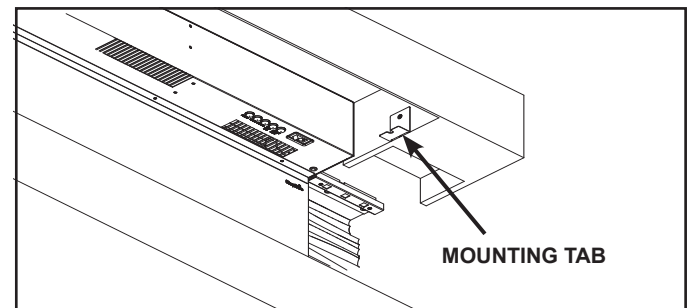

Figure 8
- Before installing the top mantel, bend the mounting tabs slightly into a more open position to allow for clearance while installing the mantel. See Figure 8.